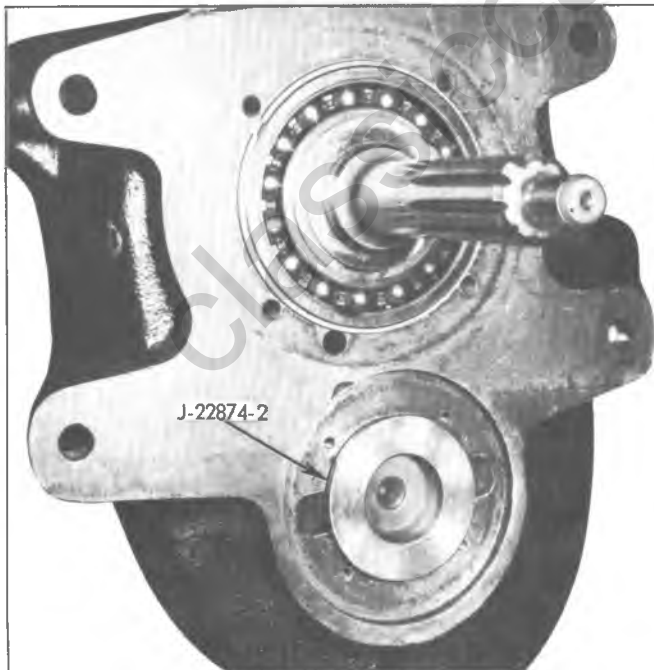

Fig. 24Q-Countergear Front Support Tool
8. Install Tool J-22874-2 in countergear front bearing opening in case to support countergear and rotate case onto front end (fig. 24Q).